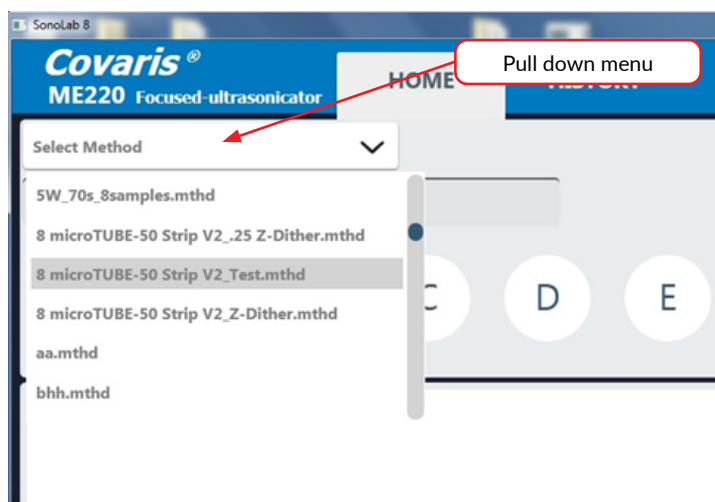

Figure 3.3 Selecting and loading an acoustic method
- b) To select and load an acoustic method, click the “Select Method” pull down menu, as shown in Figure 3.3, and a list of existing method names will be displayed. Navigate through the list with the vertical scroll bar and select a method.